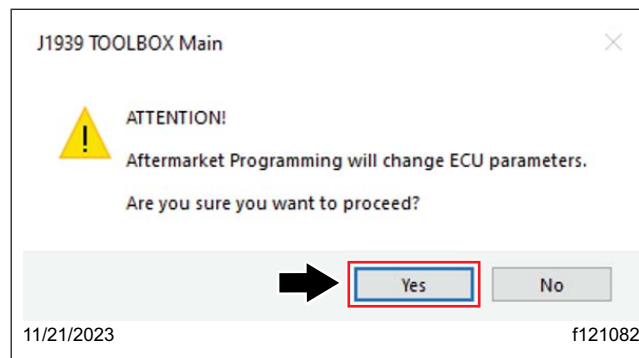

Fig. 18, Selecting Yes to Proceed to the ECU Programming
23. A message will be displayed indicating that the ECU parameters will be changed after the programming. Select 'Yes' to continue. See Fig. 18.